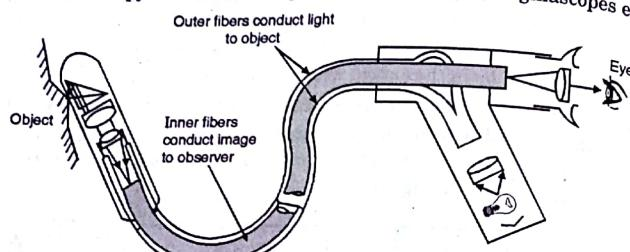

Fig. 5.10.2 : Image Carrier
- As shown in Fig. 5.10.2 bundle of fibres, which forms a flexible cable of few millimeter thickness is inserted into human body through certain openings or by drilling a small hole.